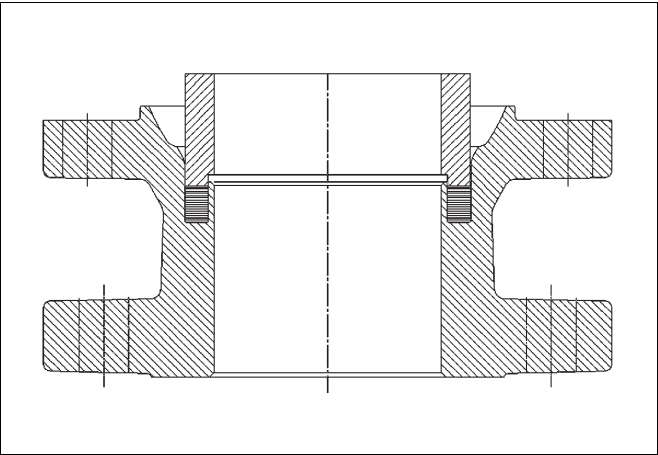

Fig. 23 Compressing the J seat
- ❑ Set back seal pressing tool on top of seal stack as seen in Fig. 23.